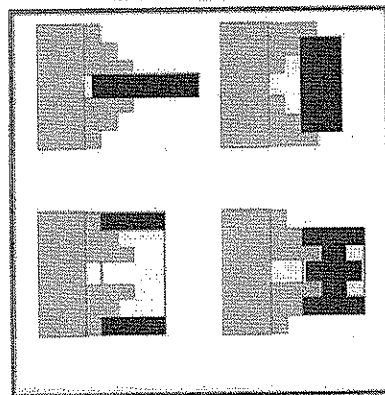

Fig. 31
7.11.5. Each of the positive and negative clamping jaws of the spindle chuck has four clamping ways for workpiece, as shown in Fig. 31.